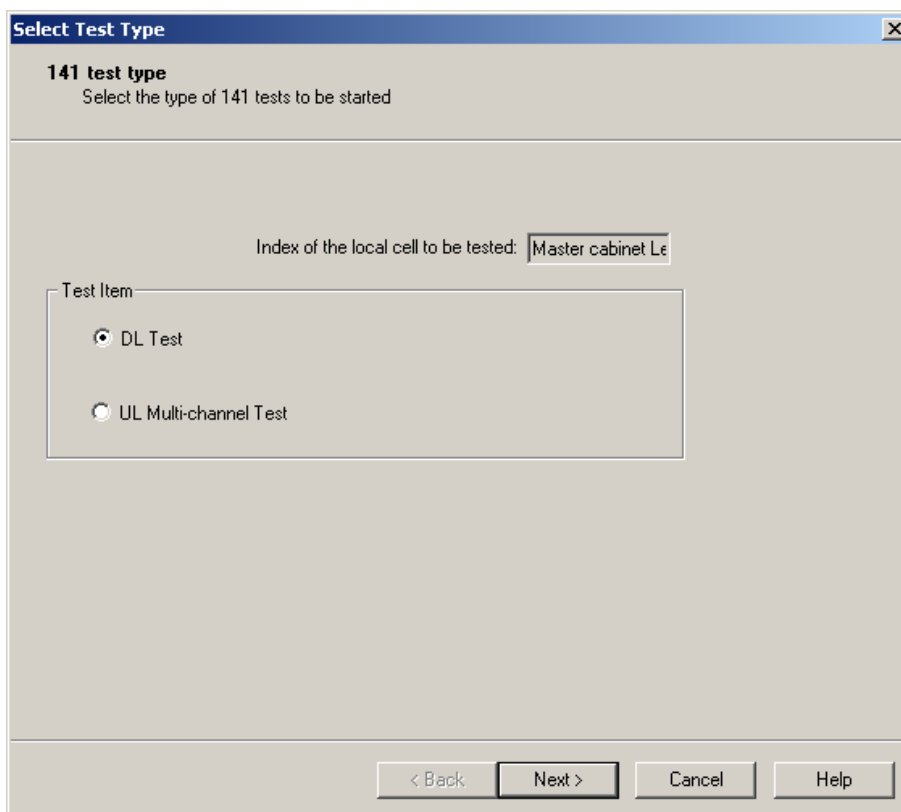

Figure 11-4 141 test type dialog box
The **141 test type** dialog box opens up as shown in Figure 11-4.
- 3) Click **Start RF Test....** The **141 test type** dialog box opens up as shown in Figure 11-4.